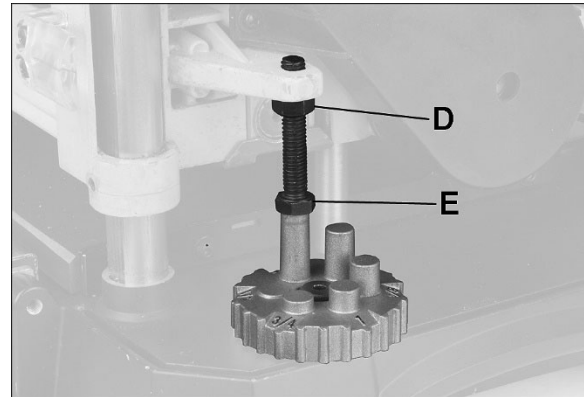

Figure 10-7: thickness gauge stop screw
6. Back off the hex nut (D, Figure 10-7) and turn the stop screw (E) as needed. Move head to contact the gauge stop.
8. Continue adjusting the stop screw if needed, until accurate. Tighten hex nut (D) to secure setting.